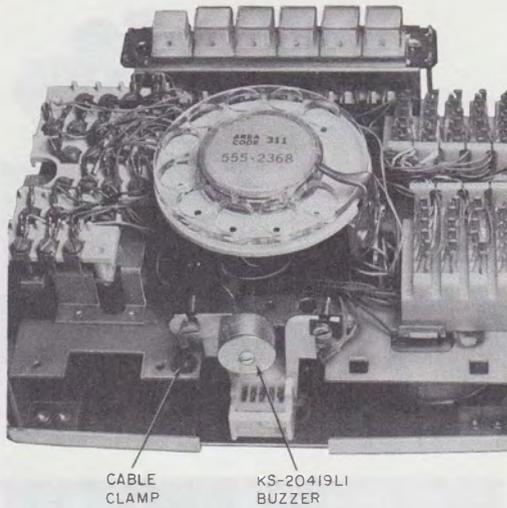

Fig. 13—KS-20419L1 Buzzer Mounted on 851-Type Telephone Set
- (1) Remove sheath to surface of outlet box or bottom of hole in base pan, depending on method of wiring.
- (2) Remove cable clamps. Pinch legs of clamp from front of chassis (Fig. 13).
- (3) Slip one of the clamps provided with set around conductors approximately 9 inches from end of sheath. Add second clamp 2 inches above first.
3.16 Buzzer: The KS-20419L1 buzzer is mounted on an insulated bracket below the dial (Fig. 13). If required, an additional KS-20419L1 may be added or the existing KS-20419L1 may be replaced by the KS-8109L2 buzzer (14-30 volt ac or dc) which would be mounted using both screws.